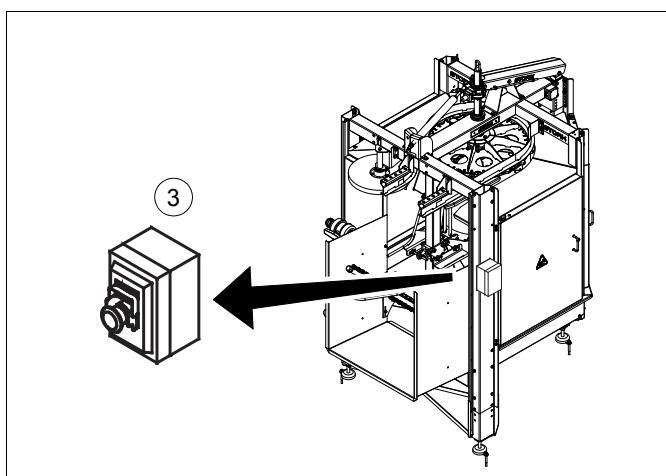

fig. 10 Emergency stop cord
- Emergency stop button 3 on the machine. See fig. 10.